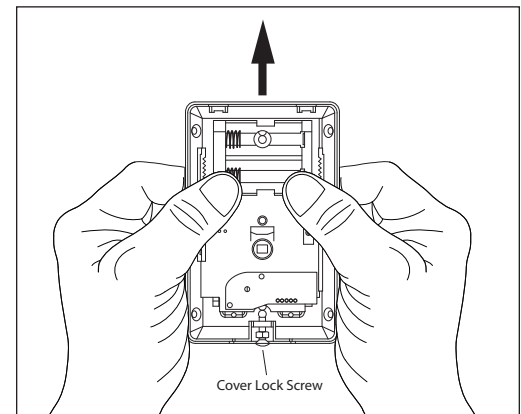

Figure 4: PCB Removal
2. To expose mounting holes, remove the PCB from the back cover. Grasp the unit in both hands and using your thumbs, push on the battery case to slide the PCB toward the top of the back cover and lift out. See Figure 4.